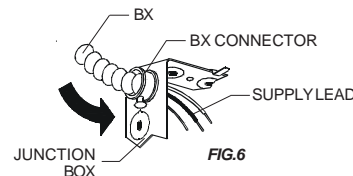

FIG.6
2. Insert the supply lead into the junction box with the "BX" connector (not provided). (Fig.6)